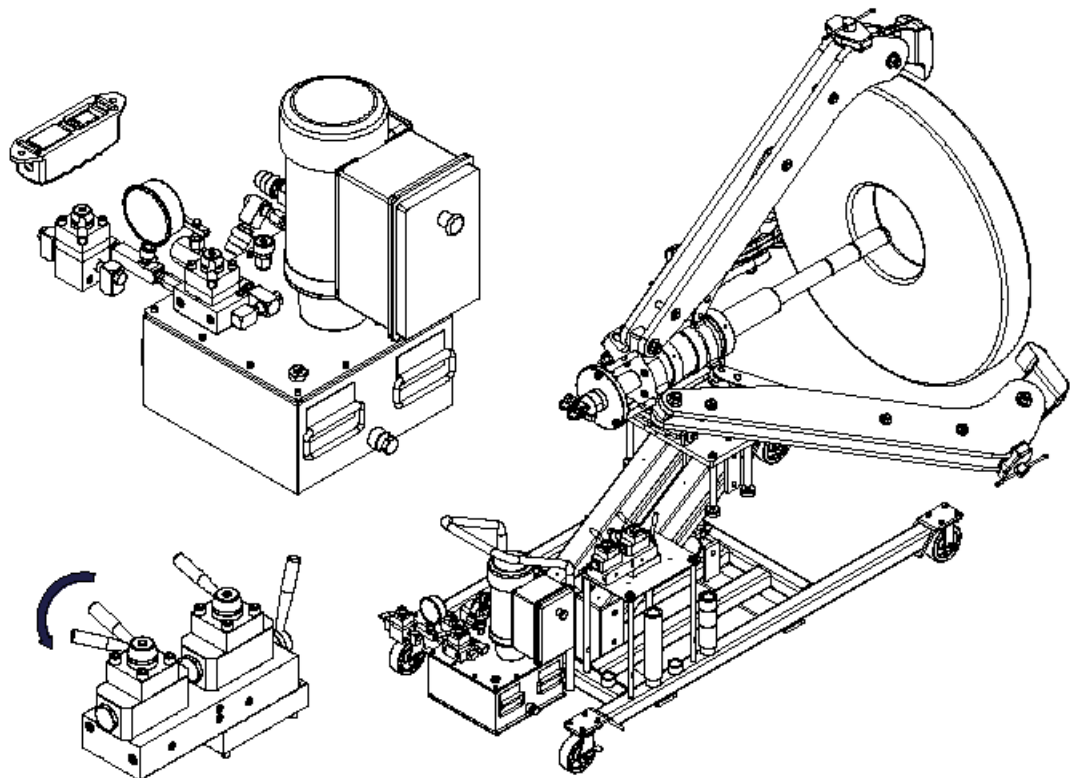

Figure 10 – Opening the Jaws
5.3.4 Switch the control panel as shown in Figure 10 to open the jaws.